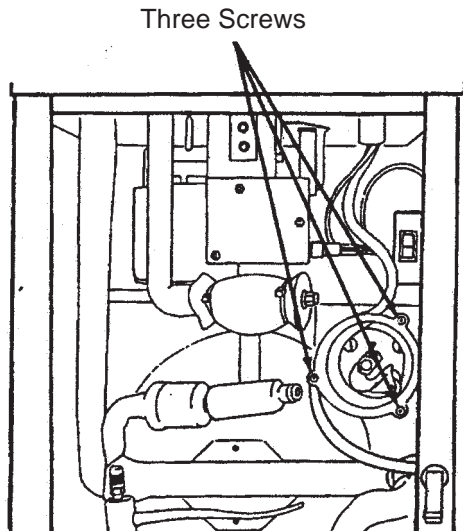

Figure 1. Fill-O-Matic Pump Hose Replacement
4. Remove the three slotted head screws and lock washers from the pump head and remove the pump head in one piece. (Fig. 1)
4. Connect the pump hose to the stainless steel and plastic fittings (see Figure 1 for proper connection).